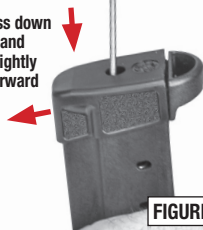

FIGURE 91
- Use a small diameter tool like a punch or drift, depress floor plate catch through the hole in the floor plate at the bottom of the magazine. Allow the floor plate to move just enough to keep the catch depressed (FIGURE 91).